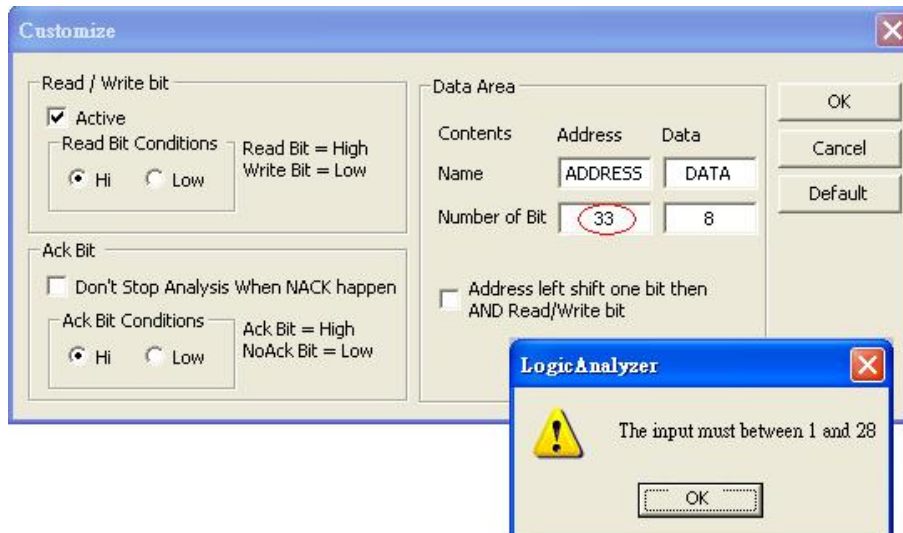

Fig 4-28 – Inputting Data Bits
Step 5. Click IIC Customize to define the IIC Data Bus to meet user's requirement. The dialogue as shown in Fig 4-28 will be displayed.